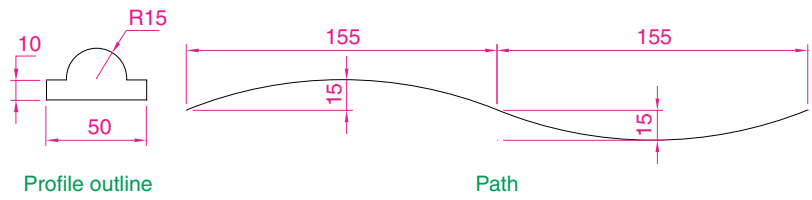
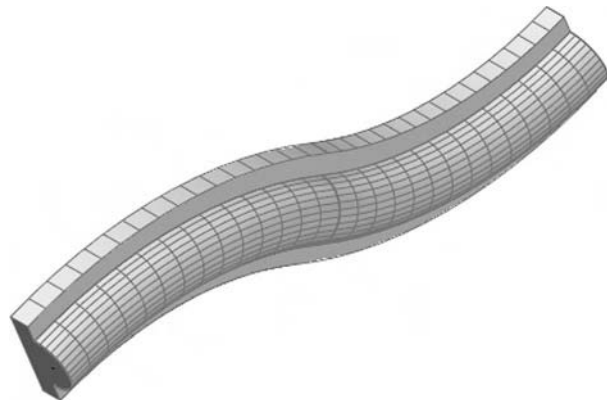

Fig. 13.51 Exercise 9 – profile and path dimensions
Fig. 13.52 Exercise 9
9. Working to the polylines shown in Fig. 13.51, construct the **Sweep** shown in Fig. 13.52.